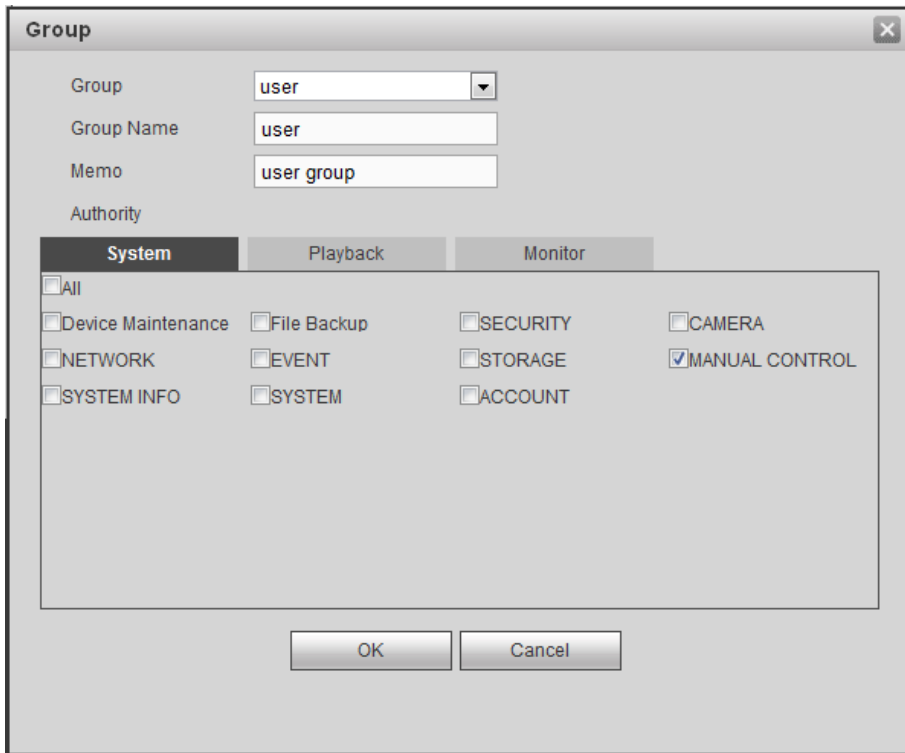

Figure 5-150
Step 1 Select a group and then click . See Figure 5-150.